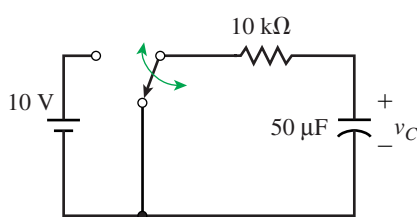

FIGURE 11–69
47. **EWB** The switch of Figure 11–69 is initially in the discharge position and the capacitor is uncharged. Move the switch to charge for 1 s, then to discharge where it remains. Solve for v_C . (Hint: Use Workbench's time delay (TD) switch. Double click it and set TON to 1 s and TOFF to 0. This will cause the switch to move to the charge position for 1 s, then return to discharge where it stays.) With the cursor, determine the peak voltage. Using Equation 11–3, compute v_C at $t = 1$ s and compare it to the value obtained above.